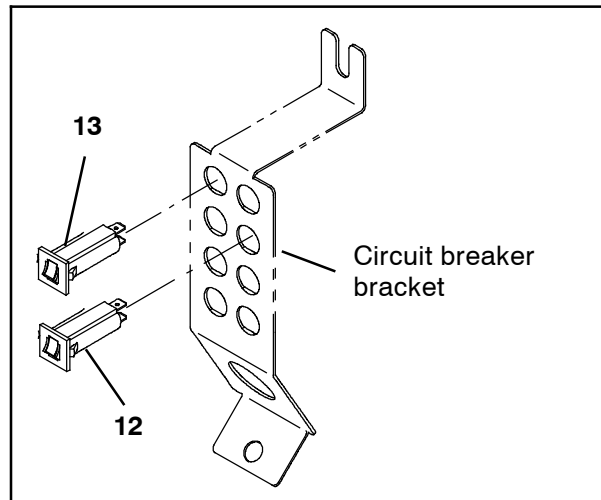

FIG. 7
19. **Machines without front light kit option only:** Insert the 15- Amp circuit breaker (13) into circuit breaker location 12 in the circuit breaker bracket. (Fig. 7)
20. Insert the 2.5 Amp circuit breaker (12) into circuit breaker location 14 in the circuit breaker bracket. (Fig. 7)
21. Connect the main wire harness to the previously installed circuit breaker(s) (12 / 13). (Fig. 7 / Fig. 3 / Fig. 4)